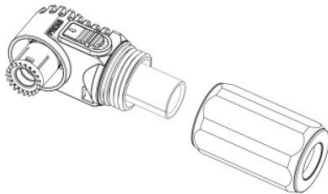

Figure 6-7-1 Unscrew the back nut of the terminal
- 1) Unscrew the nut on the back cover of the terminal, as shown in Figure 6-7-1.